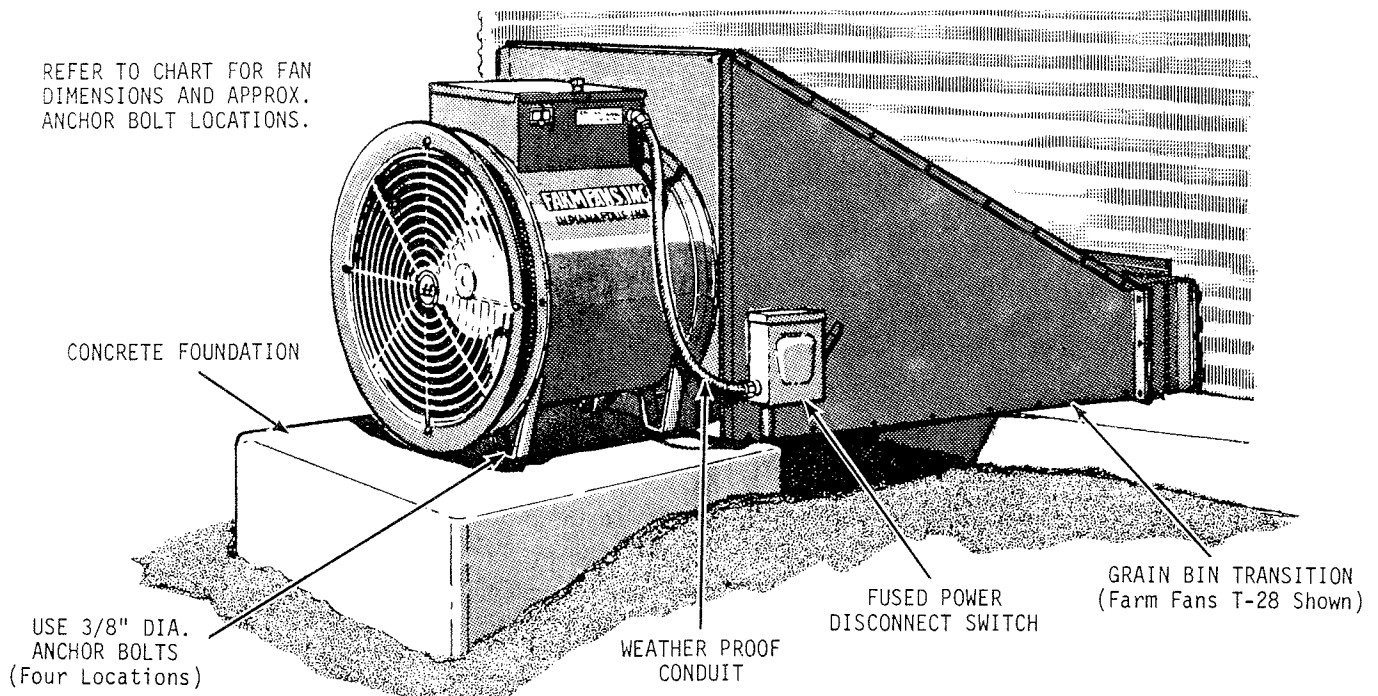

FIG. 1 - SUGGESTED FAN INSTALLATION - PRESSURE FLOW SYSTEM SHOWN
1. Refer to Fig. 1 for a view of a suggested installation, showing position of fan and layout of system.